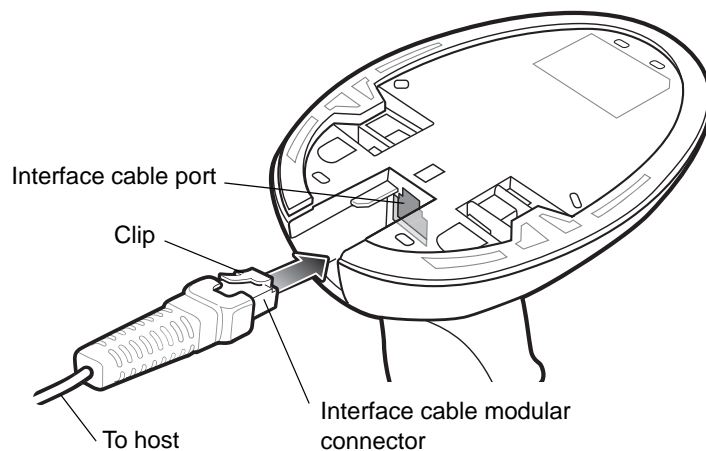

Figure 1-2 *Installing the Cable*
1. Plug the interface cable modular connector into the cable interface port on the bottom of the digital scanner's base (see Figure 1-2).